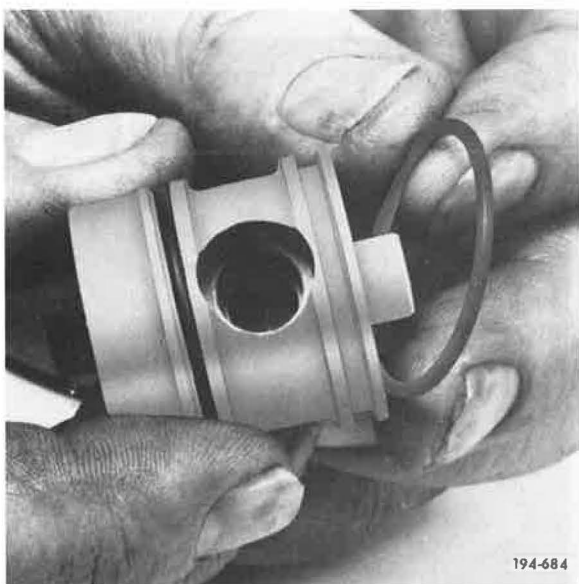

Figure 220. Installing O-Rings
3. Install both O-rings onto rotor. See Figure 220.